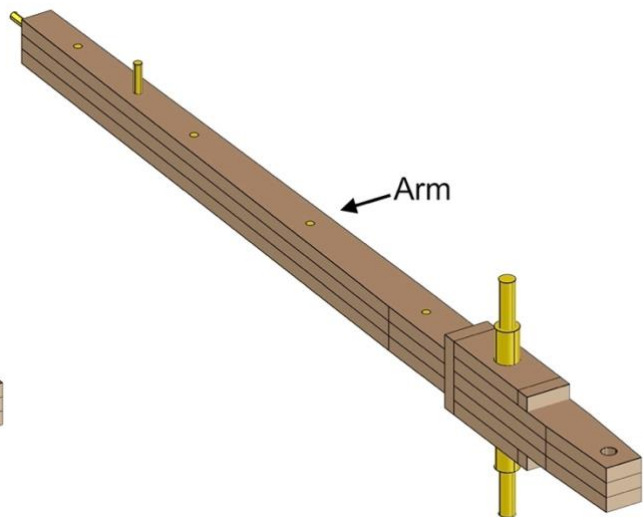

Fig. 70
- Fig. 70 shows the completed process.